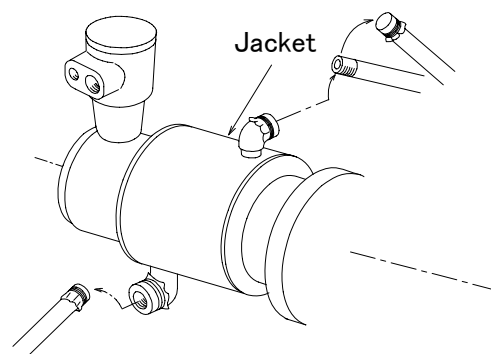

Fig.4-3 Removal of Auxiliary Piping
- (2) Remove auxiliary piping. (In the case where cooling water is used.) Disconnect the cooling water piping from the pump. On the cooling water piping thus removed, cover the pipe end to prevent ingress of dirt or dust. (Refer to Fig.4-3.)